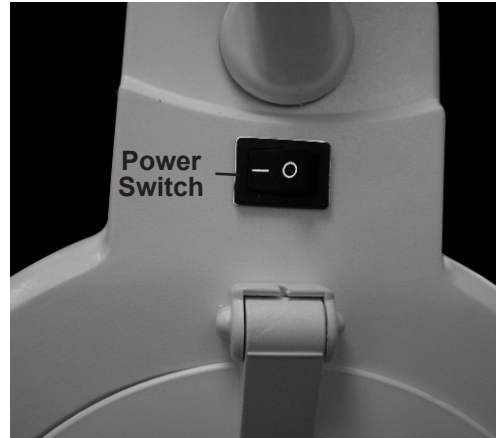

Fig. 1
2. Turn on the Lamp by pushing down on the black rocker Power Switch (35) found on top of the Lamp behind the Lens Cover (49). (See Fig. 1.)